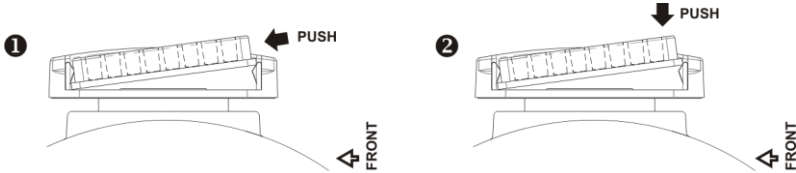

Fig. 1. Platform or plate installation
Install the platform or plate by inserting it in the universal platform/plate holder. Push the rear end of platform/plate into spring clamps (fig. 1/①) and finish installation by pushing from the top (fig. 1/②).